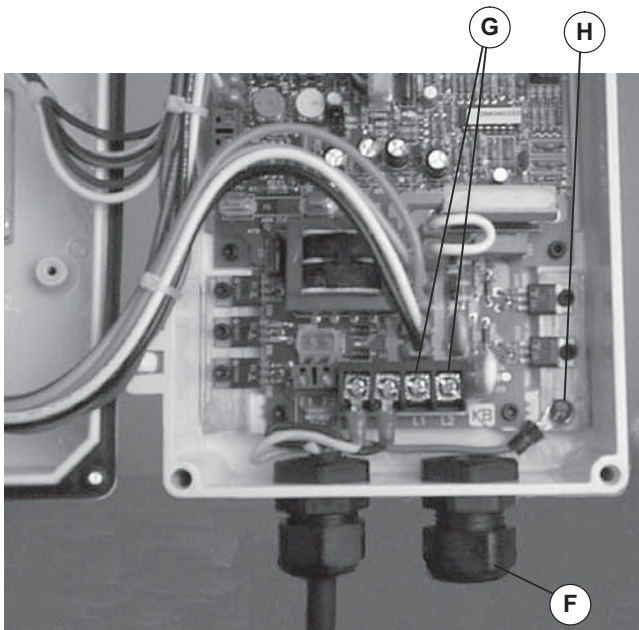

Figure 2
1. Insert line cord through cord grip (Figure 2, item F). Terminate 115 volt, single phase line to L1 and L2 connection (G). Terminate ground to connection (H).